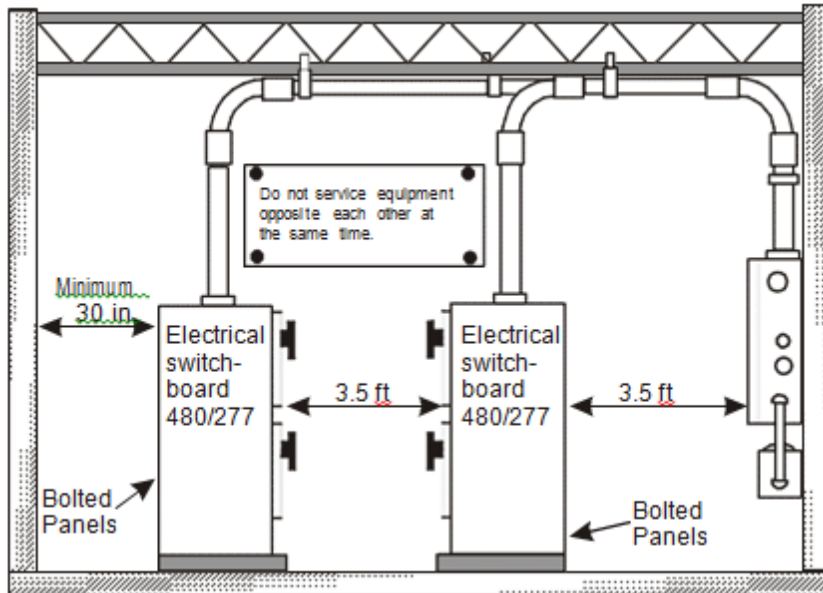

Figure 6.3 – Working space requirements for rear or side access
- b. Provide a working space of at least 30 inches horizontally where rear or side access is required to work on de-energized parts of enclosed equipment (see figure 6.3).